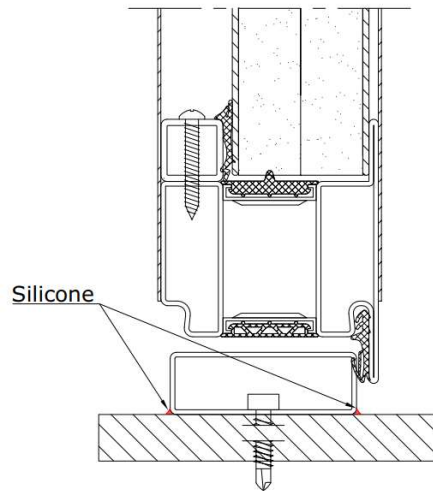

Figure 3 Threshold sealing
10. Use silicone to seal the gap between threshold and floor (Figure 3).